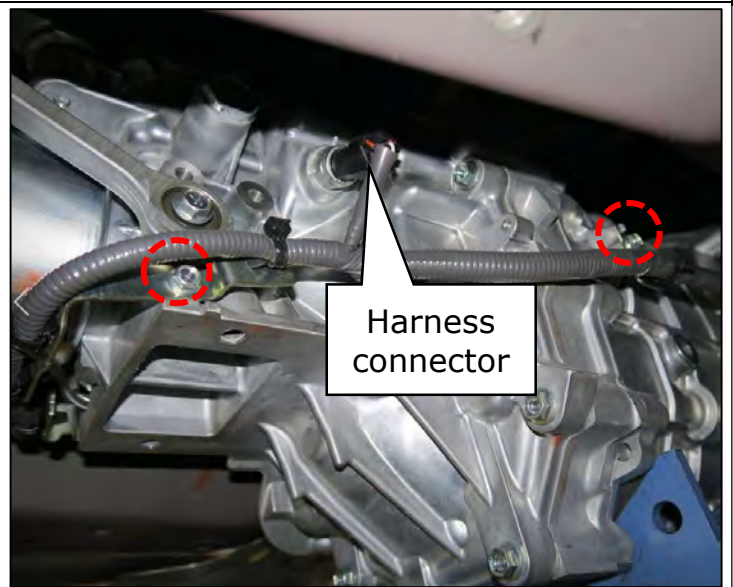

Figure 60
60. Disconnect the harness connector shown in Figure 60.
- Remove the (2) bolts from the harness retainer brackets